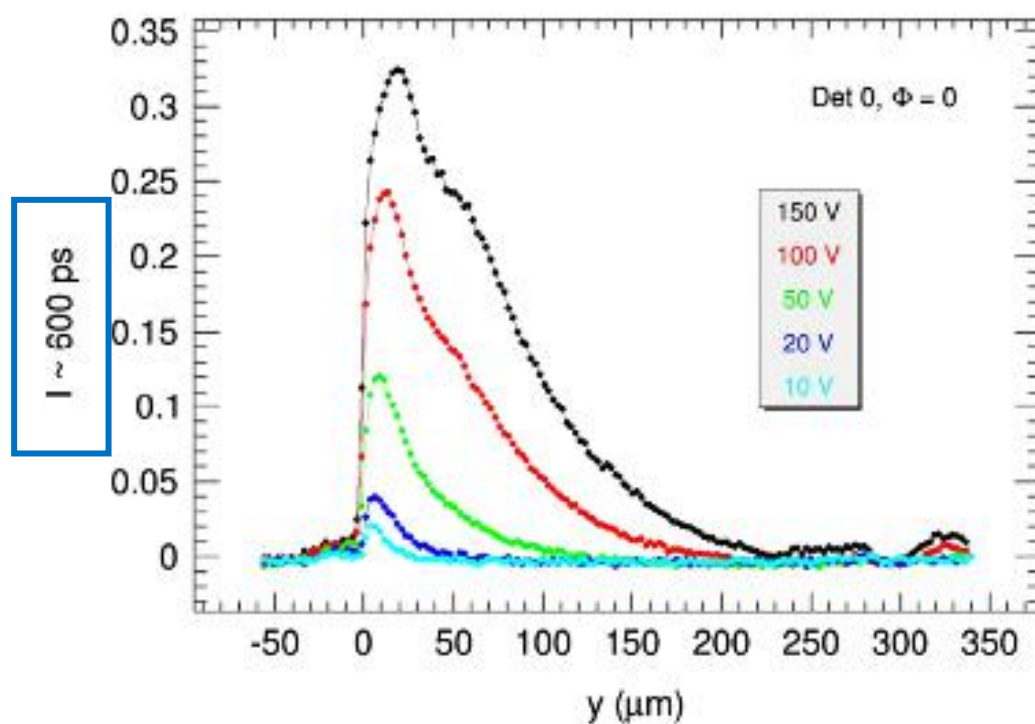

Fig8
- In fig.8, What is this part of 300-350 $\mu\text{m}$ ?